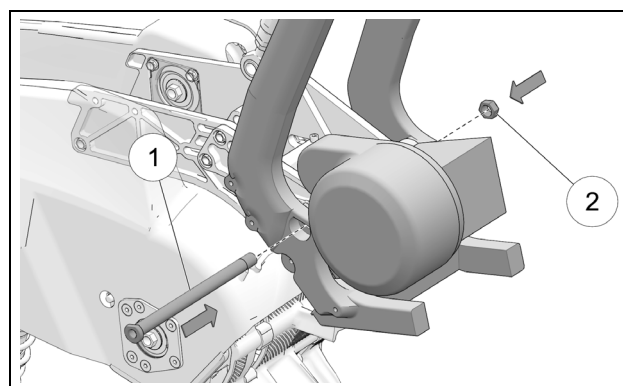

Figure 27
- Attach YETI to bike by reinstalling swing arm assembly bolt (1) and nut (2). See Figure 27.